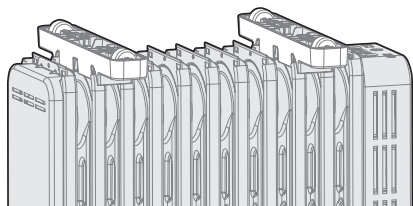

Figure 2
- 3 After the installation is firm as Figure 2. Put the electric heater right and the wheel can touch the ground.